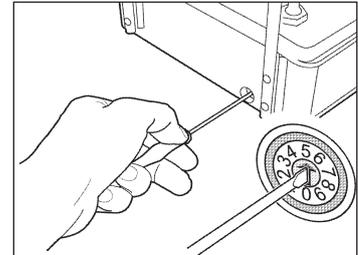

Fig. SE31 Remote infrared controller adjustment wheel
- ➔ Setup the same transfer address on the remote infrared controller (Fig. SE31).